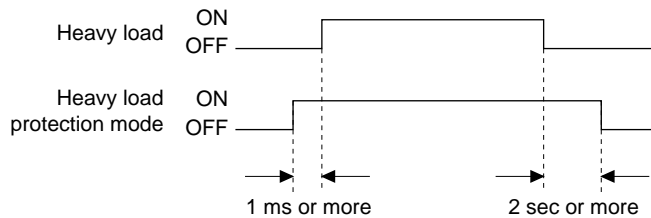

Fig. 3.2.2.1 Control timing for heavy load protection mode
- (1) When driving heavy loads, set it to heavy load protection mode. Unless it is necessary, be careful not to set the heavy load protection mode with the software.
- (2) Perform heavy load driving only after setting up at least 1 ms wait time through the software, after switching to the heavy load protection mode. (See Figure 3.2.2.1.)
- (3) When the heavy load protection mode is to canceled after completion of heavy load driving, set up at least 2 seconds wait time through the software. (See Figure 3.2.2.1.)